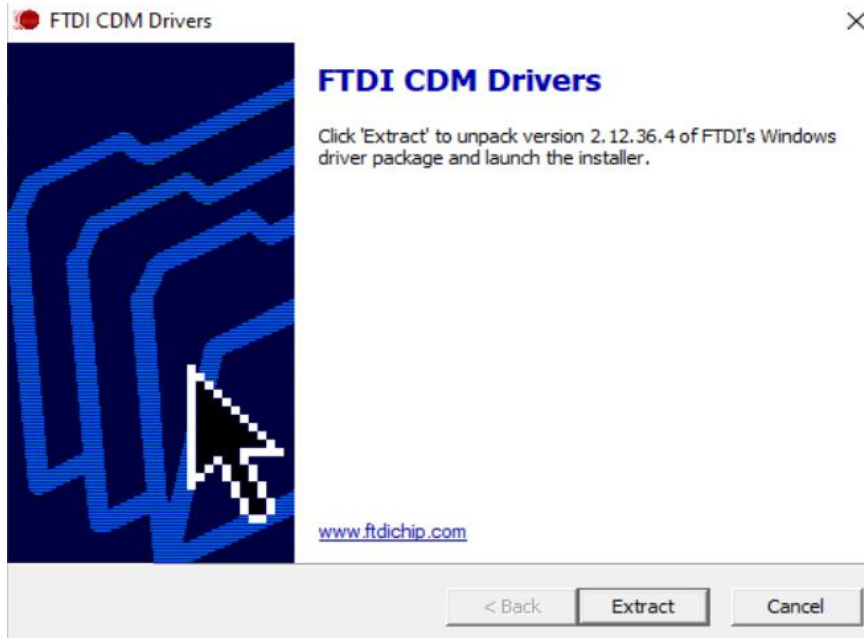

Figure 7-3 Install the serial cable driver
- Double click the “CDM212364\_Setup.exe” file to install the serial driver. Click “Extract” during the installation process. As shown in Figure 7-3.